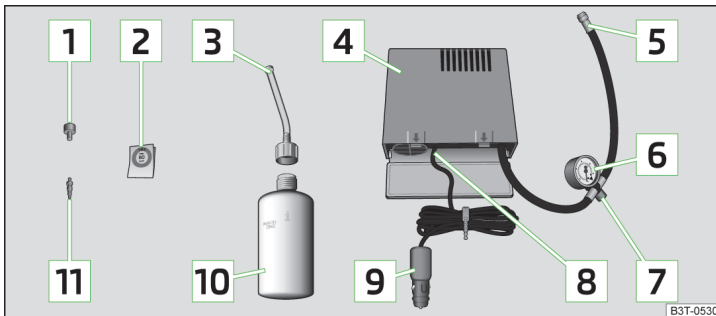

Fig. 181 Principle sketch: Components of the breakdown kit
Components of the breakdown kit » Fig. 181
- Stick the sticker **2** » Fig. 181 on page 205 on the dashboard in the driver's field of view.
- Shake the tyre inflator bottle **10** » Fig. 181 on page 205 vigorously several times.
- Screw the air compressor tyre inflation hose **5** » Fig. 181 on page 205 firmly onto the tyre valve.